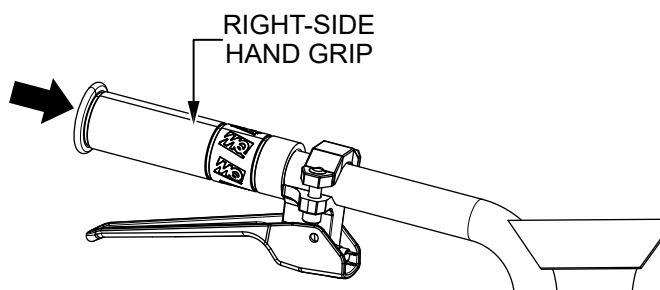

Figure 9. Reinstall Right-Side Hand Grip
- Reinstall the **right-side hand grip** onto the right-hand grip area as shown in Figure 9. The presence switch body should be touching the rubber hand grip with the grip fully seated onto the handlebar tube.